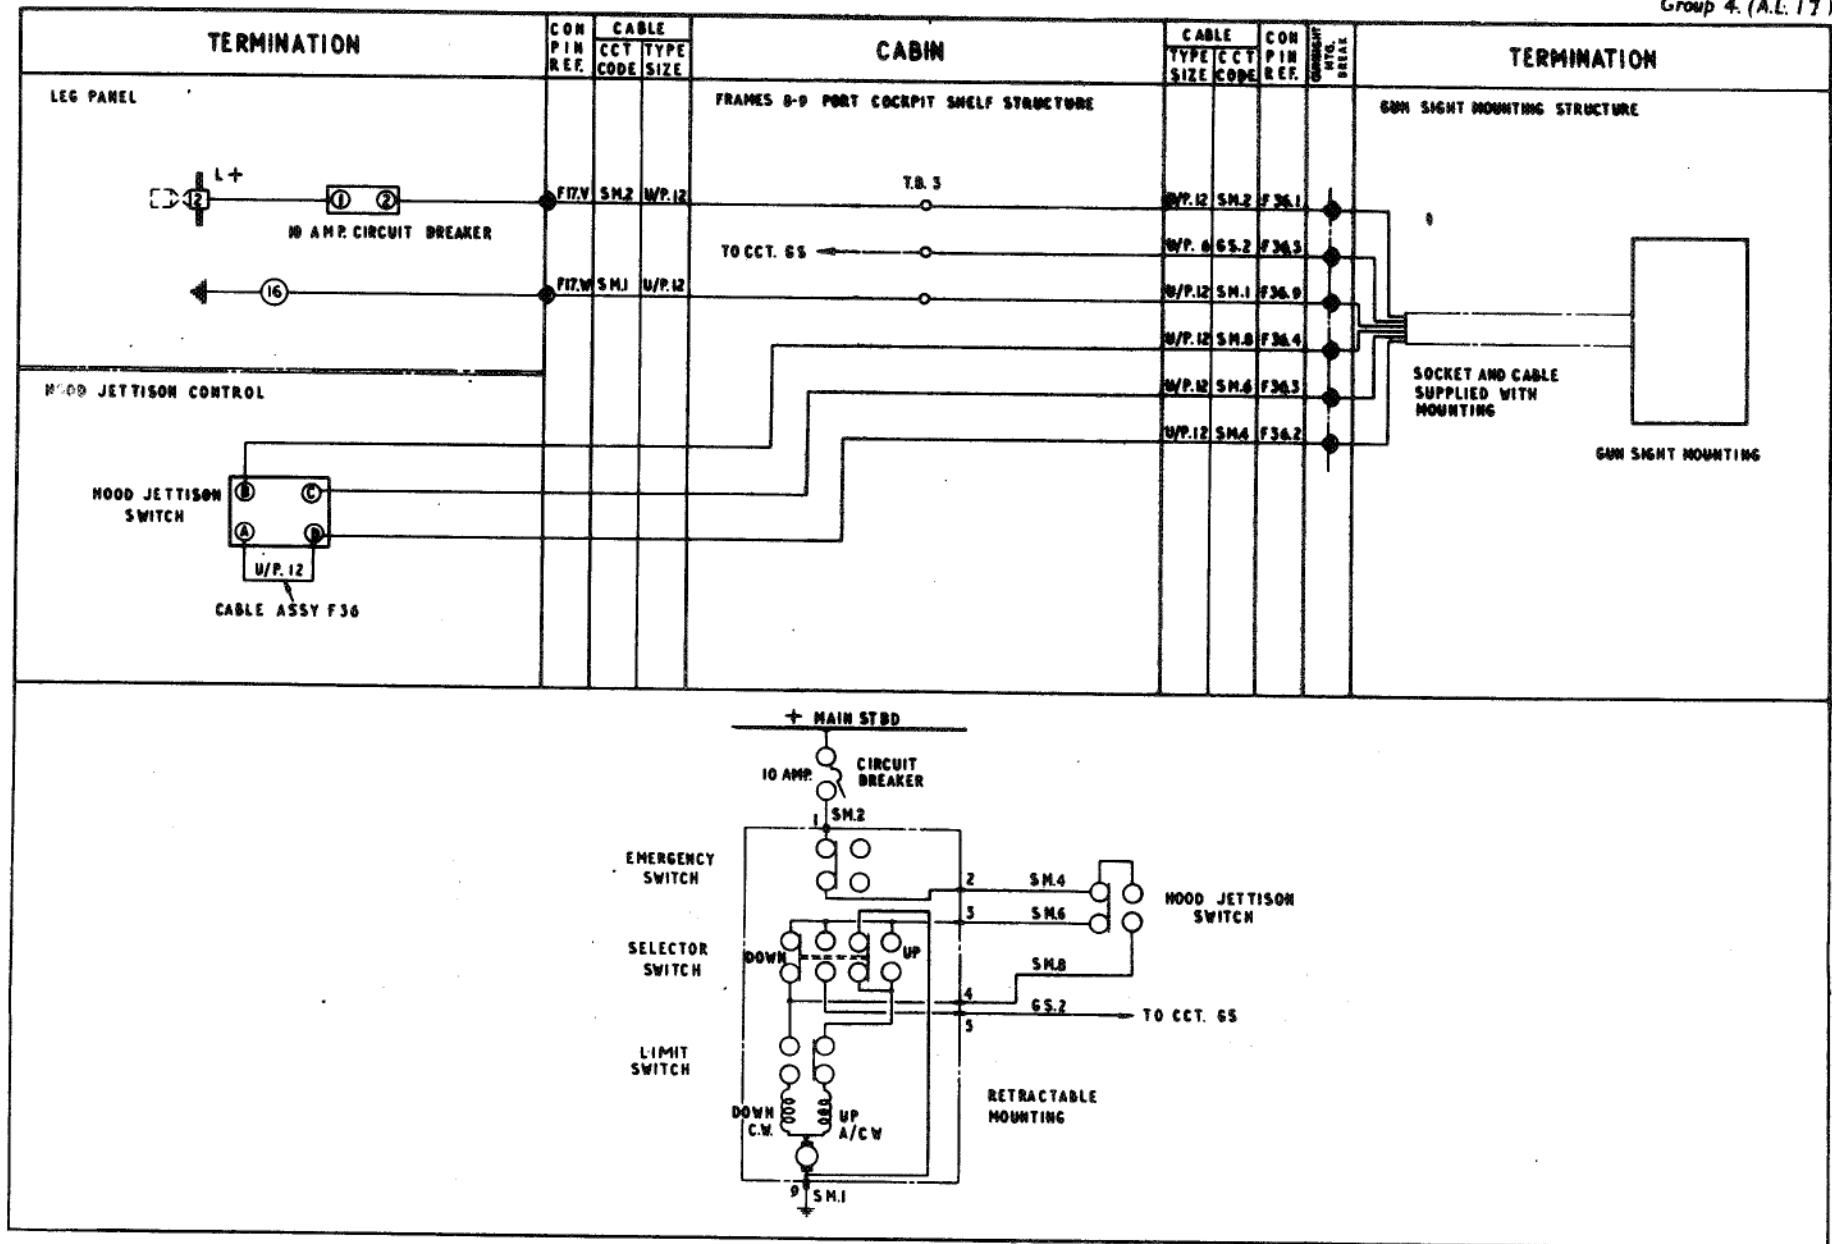

FIG. 1. GUN SIGHT RETRACTABLE MOUNTING (ROUTING AND THEORETICAL)
4. If mechanical or electrical failure occurs when the sight is in the combat position it can be retracted manually by a knob on the port side of the mounting. Operation of this knob allows the sight to retract and lock down under gravity. A switch, linked with the manual control knob, is also opened and isolates the supply to the selector switch, electric motor and gyro gun sight. A routing and theoretical diagram of the circuit is given in fig. 1 of this group, and reference should be made to A.P.1275E, Vol. 1, for a detailed description of the retractable mounting.